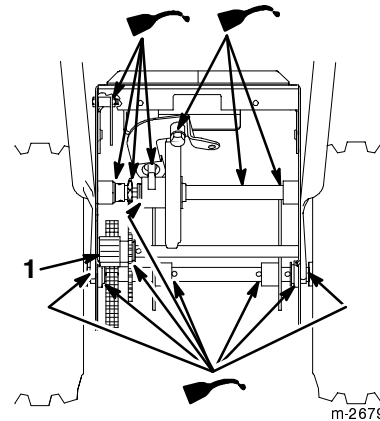

Figure 37
5. Lightly lubricate the snowthrower with light oil as shown in Figures 37 and 38.
7. Lightly grease the axle gear (Fig. 37).